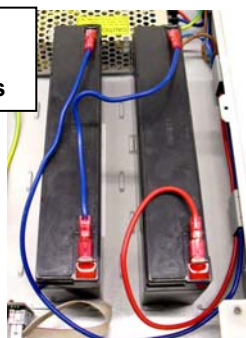

Figure 2 Blocking switch (device
- The device is to be switched to “blocked” at the blocking switch (see fig. 2).
- Only, when the device shall be brought into the operational condition ready for extinguishing, the blocking switch (see fig. 2) is to be switched to “not blocked”.